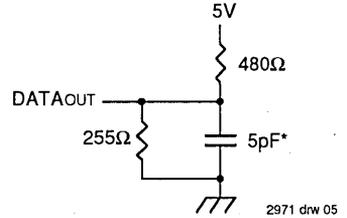

Figure 2. AC Test Load
- This parameter is guaranteed with AC test load (Figure 2) by device characterization, but is not production tested.